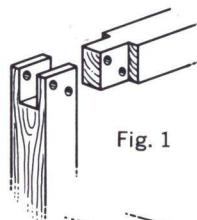

Fig. 1
2. Prepare mortise and tenon joints (fig. 1), drill holes for carriage bolts.